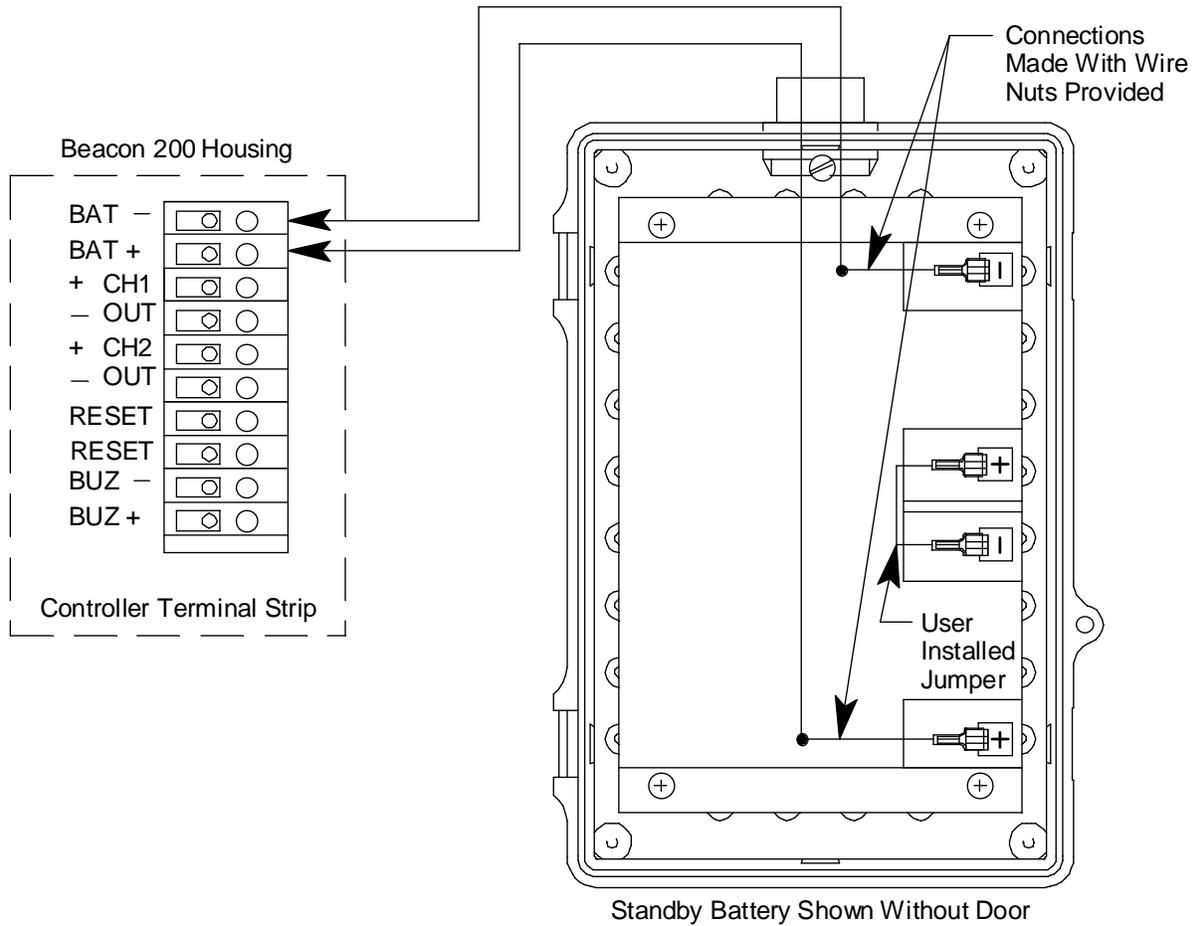
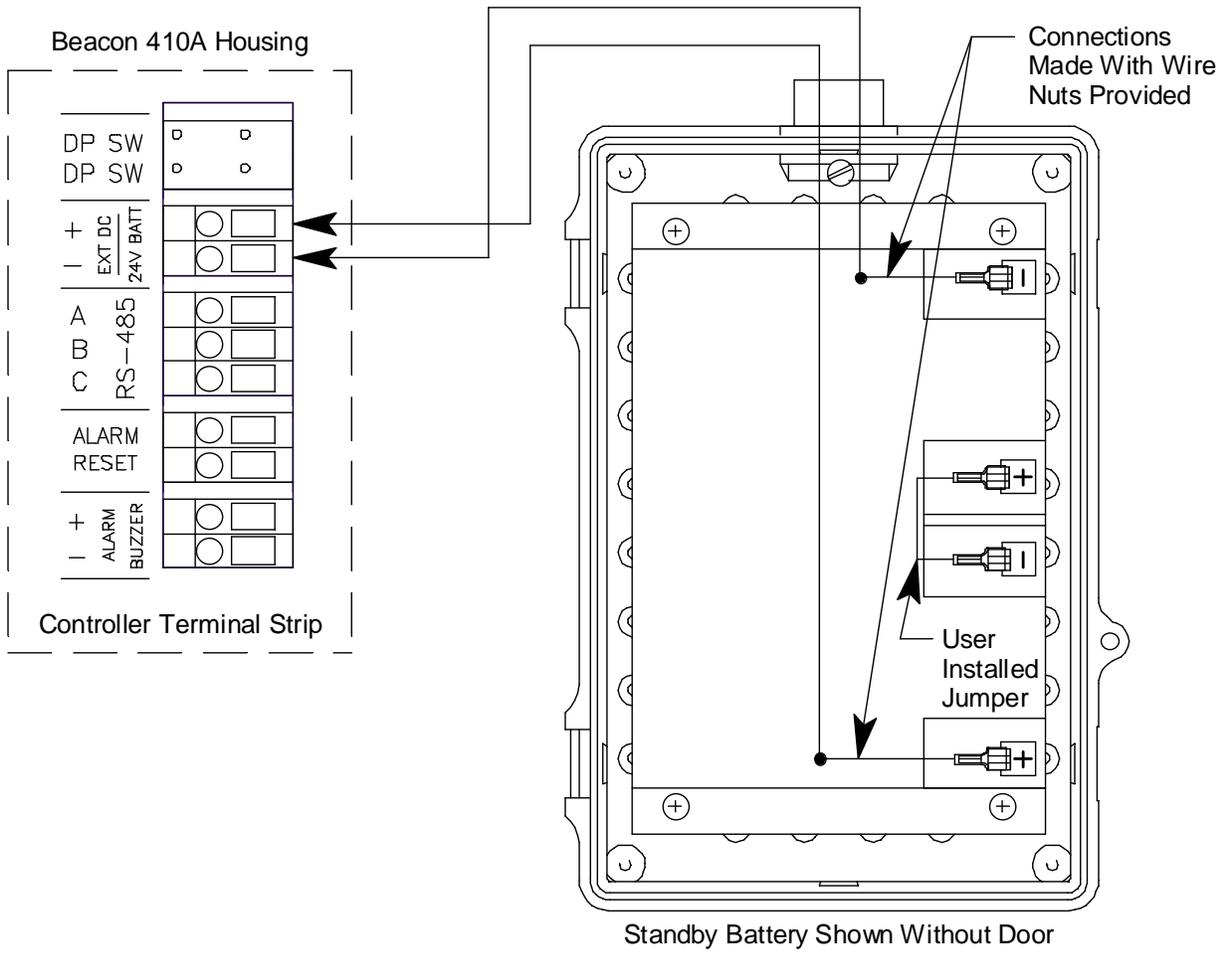
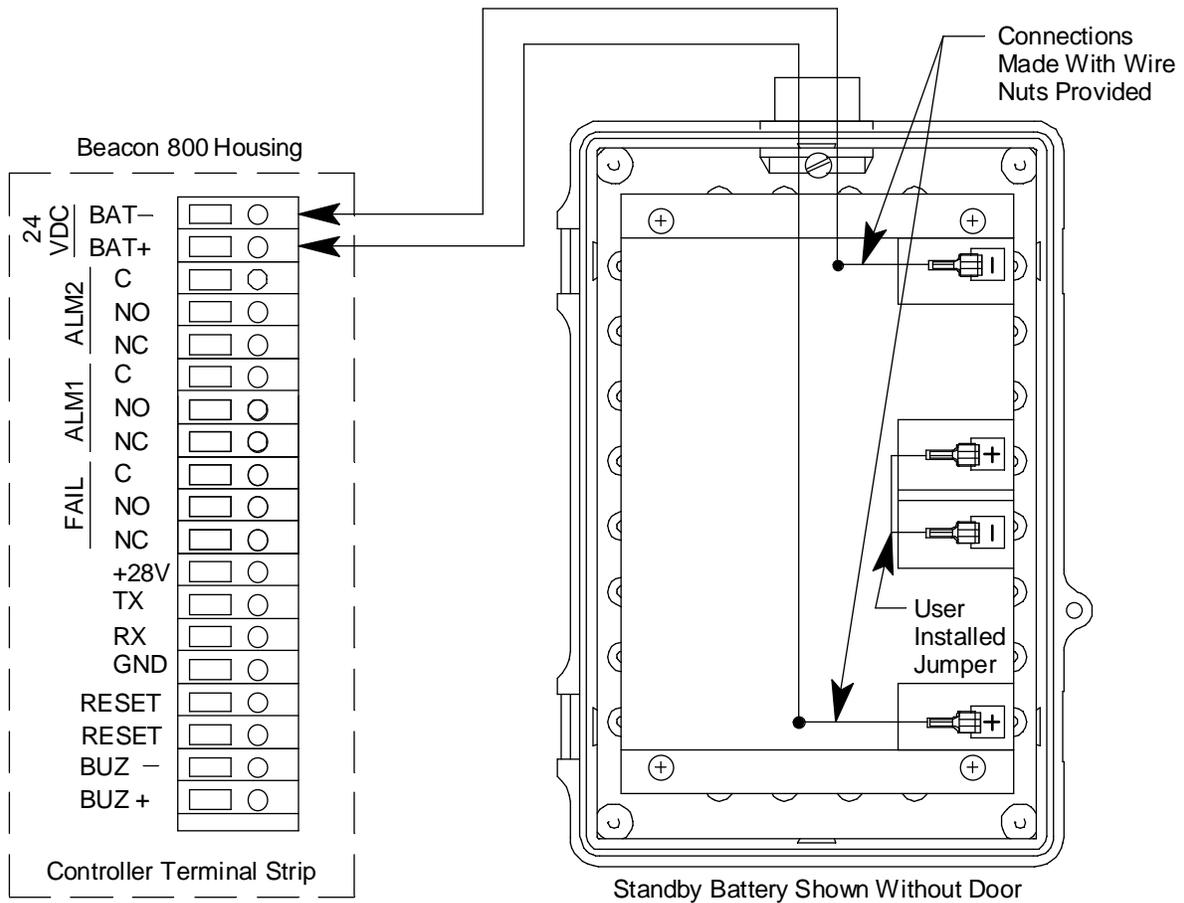

Figure 4: Wiring the Standby Battery to a Beacon 200
Figure 5: Wiring the Standby Battery to a Beacon 410A
Figure 6: Wiring the Standby Battery to a Beacon 800
- Use the wire nuts provided with the standby battery to connect the positive and negative wires in the standby battery to the positive and negative wires coming from the controller as shown in Figure 4, Figure 5, and Figure 6.
14. Install the positive and negative connections to the appropriate battery terminals (see Figure 4, Figure 5, and Figure 6).
17. When the controller has completed its warm-up sequence, install the jumper wire between the two batteries (see Figure 4, Figure 5, and Figure 6).